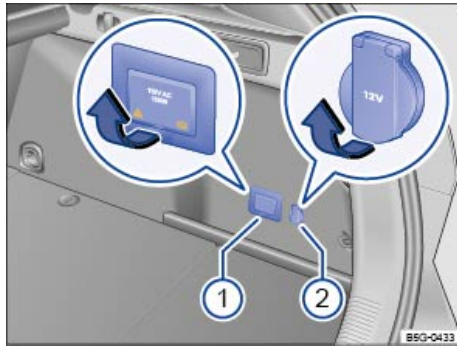

Fig. 125 In the luggage compartment: Covers for the 115 Volt outlet 1 (if equipped) and 12 Volt socket 2.
- In the luggage compartment ⇒ fig. 125.
To open: Lift the outlet cover ⇒ fig. 125 \(1\) or \(2\) in the direction of the arrow (magnified view).